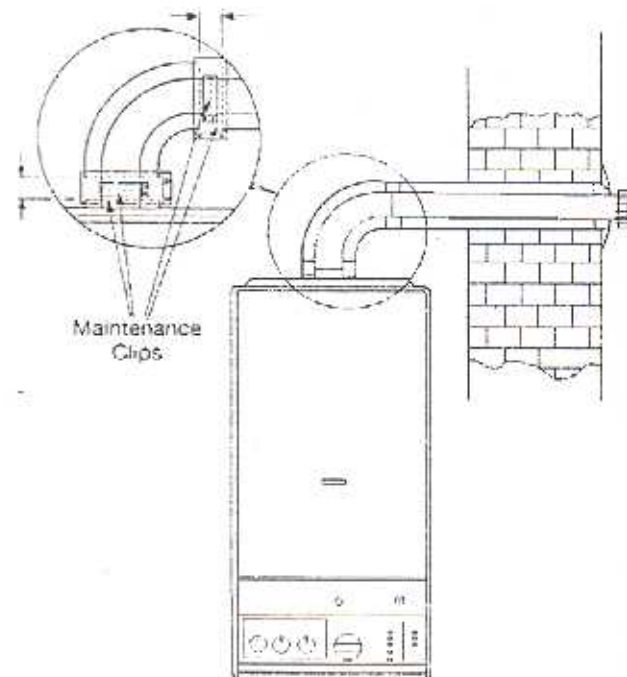

Fig.41
- 8.20.5 Remove screws on large maintenance clips (fig.41) and remove clips, loosen screws on the small clips and remove flue elbow.